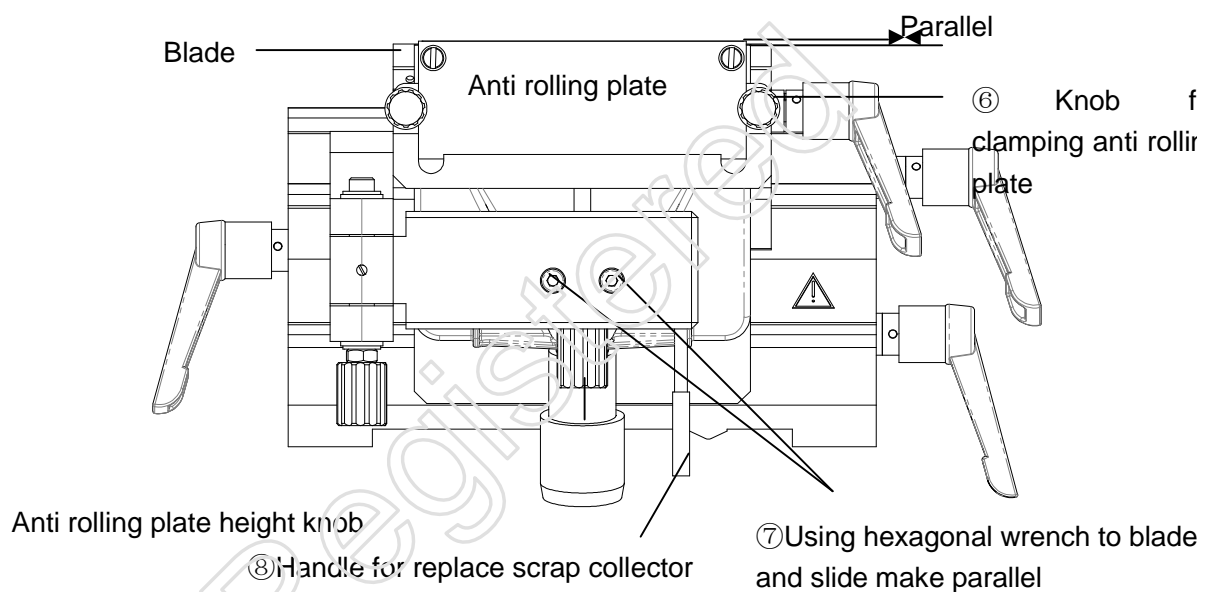

Fig 15 Making parallel between edge of blade and slide
- 1、 Make the edge of the anti rolling plate parallel to the edge of the blade. (Fig 15)
- Insert blade and lock the clamping lever(①)
- Lock two knobs⑥.
- Fasten hexagonal screw⑦
- Turn height turning knob⑤ to adjust height of anti rolling plate